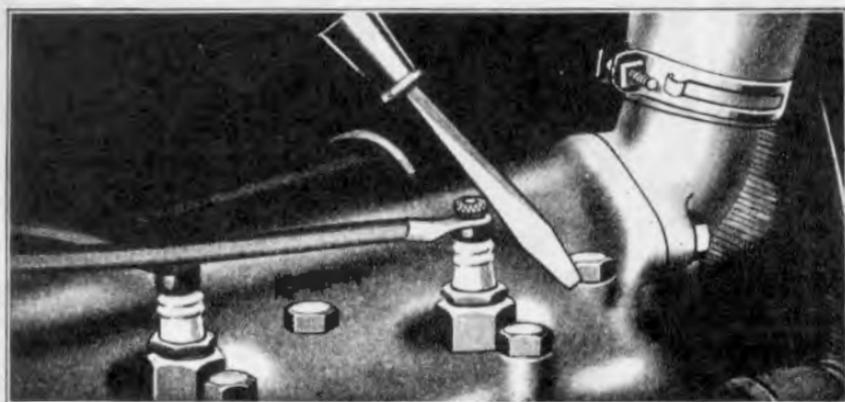

Fig. 502
- 1001 If the trouble indicates itself as lying in the ignition system or valves, start the engine and place a screw driver on the cylinder near one of the spark plugs, then lean it against terminal of spark plug (See Fig. 502). This shorts the current past the spark plug. A screw driver with a wooden handle should be used when making this test to prevent receiving a shock. Check each plug in this manner until one is found which makes no change in the sound of the exhaust from the engine. When this plug is found, the trouble lies in the ignition or valves of that cylinder. (As the miss is more likely to be due to ignition than valve trouble it is advisable to check the ignition first.)